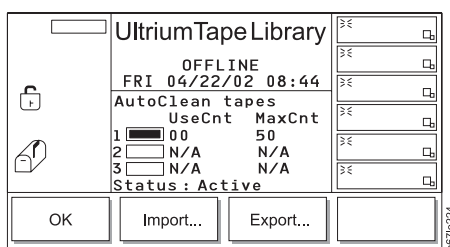

Figure 14-59. AutoClean Dialog
3. Press the button below the **AutoClean** softkey. The AutoClean Dialog displays (see Figure 14-59) with the following information about cleaning cartridges and cleaning slots in the library.